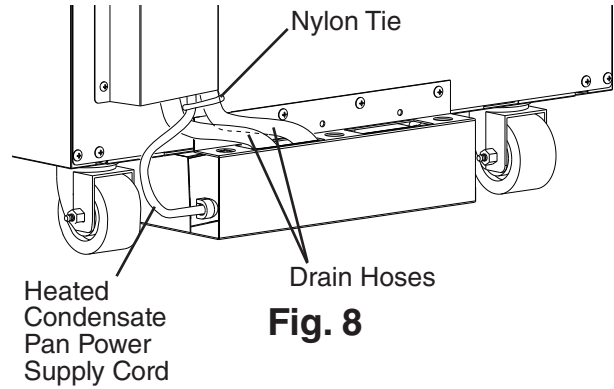

Fig. 8
- 7) Using a nylon tie from the accessory bag, secure the heated condensate pan power supply cord to one of the drain hoses. See Fig. 8.